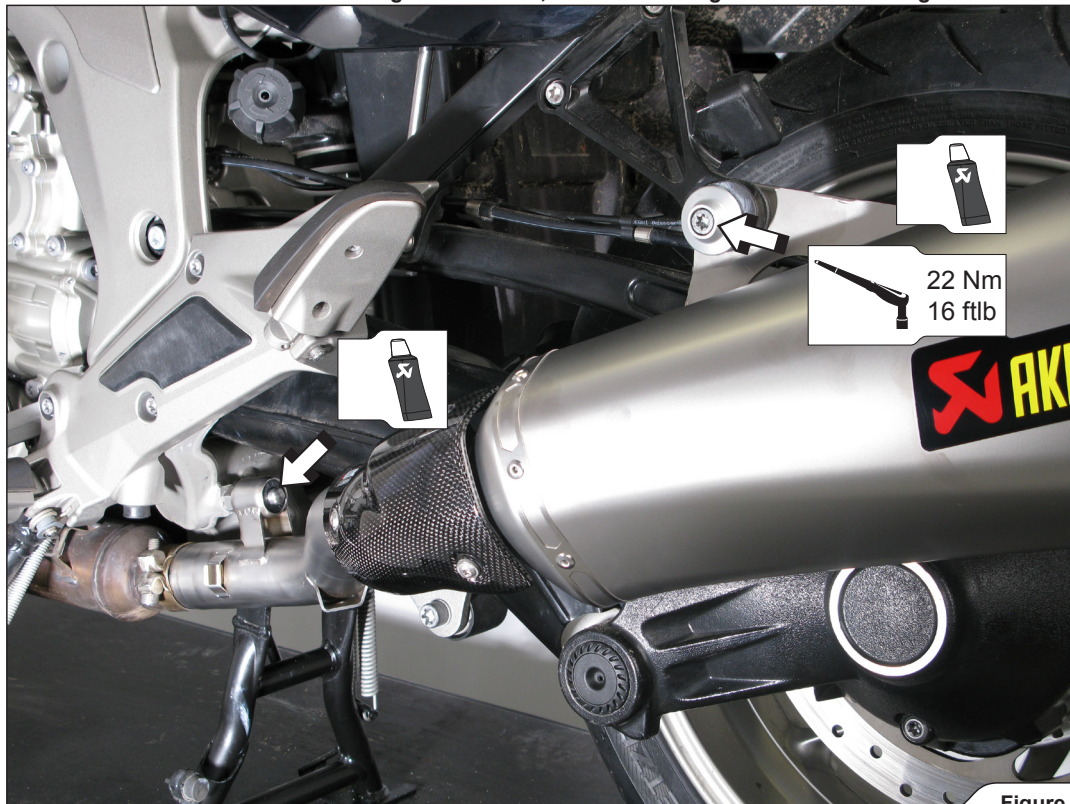

Figure 9
- Slide the left muffler all the way onto the outlet side of the stock collector and simultaneously slide the rubber mounting onto the original bracket. Tighten the muffler bracket to the specified torque, using original washer and bolt (**Figure 9**).